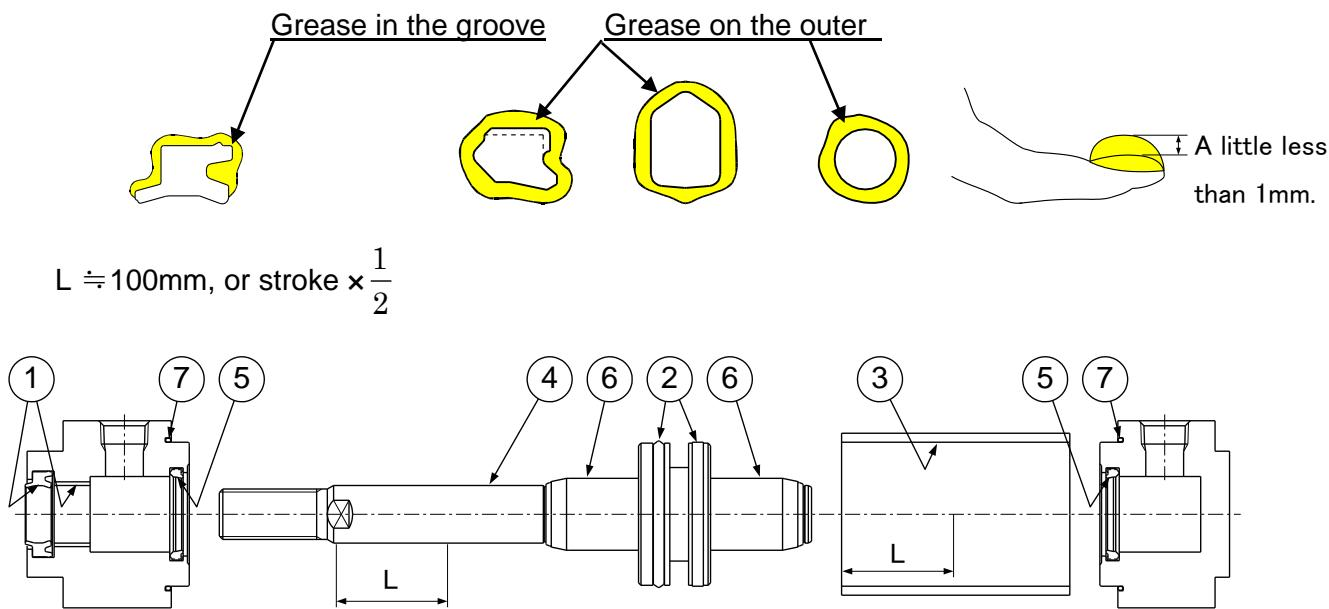

Fig. 14 Position for application of grease
Grease is applied to the locations shown in Fig. 14. The amount of grease per cylinder of 100 stroke is shown in attached table 9. Roughly, one scoop with a forefinger is approximately 3g.
1) Rod seal, Cushion seal (Fig.14, ①⑤)
2) Piston seal (Fig. 14, ②)
3) Tube gasket (Fig. 14, ⑦)